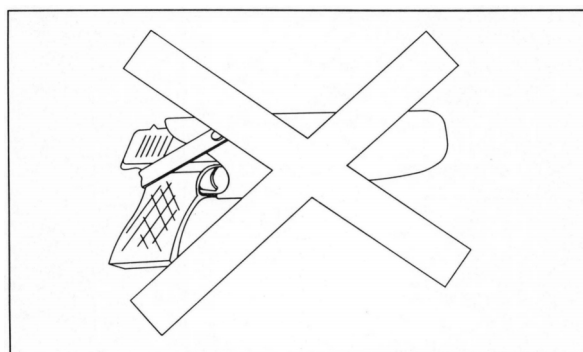

Fig. 5-8. Holsters used for storage invite rust.
- *Do not* store any firearm in a holster (Fig. 5-8).